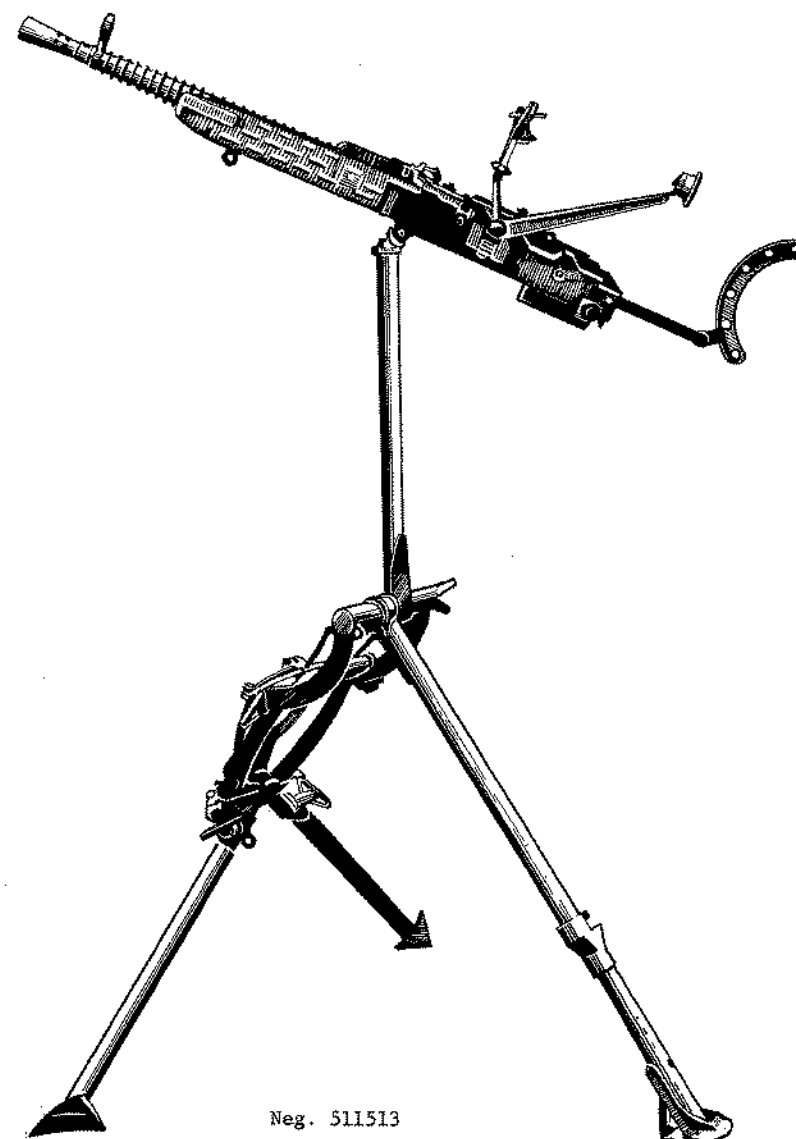

Figure 214. ZB-37 anti-aircraft position.
a. A number of accessories are used with the ZB37; the most important one is the tripod, which is made from tubular steel and has front legs that, when unclamped, can be adjusted to vary the height of the mount. A lower cradle, with two elevating arcs at its rear end, is attached to the tripod. This cradle elevates and depresses and is locked by clamps on each side of the elevating arcs. The upper cradle, which has the lugs for attaching the gun, swings from side to side on the lower cradle. This movement is also controlled by clamps. The rear legs are paired together; however, one of the legs can be raised. This leg has a bracket to allow the front mounting lug on the gun to be attached. When the gun is so mounted, it can be used for antiaircraft firing (fig 214). A shoulder brace and special sights are available, but are not absolutely essential.